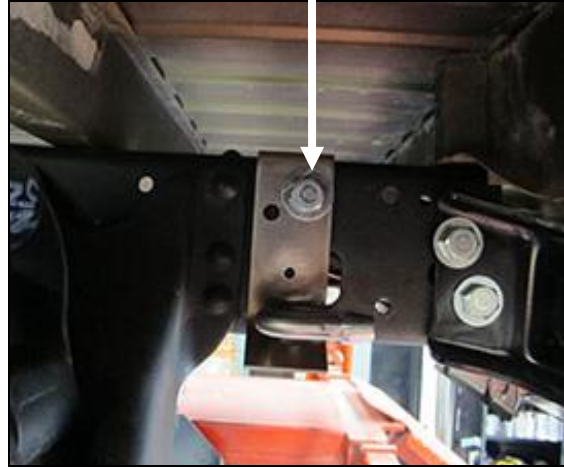

Figure 2
10. Attach the left and right side tailpipe hangers to the outside faces of the frame, just behind the rear leaf spring hangers, using the supplied 3/8 x 1" bolts and nuts (**Figures 2 & 3**). The 90° bend tabs on the hanger plates wrap over the top of the frame rails when correctly installed.